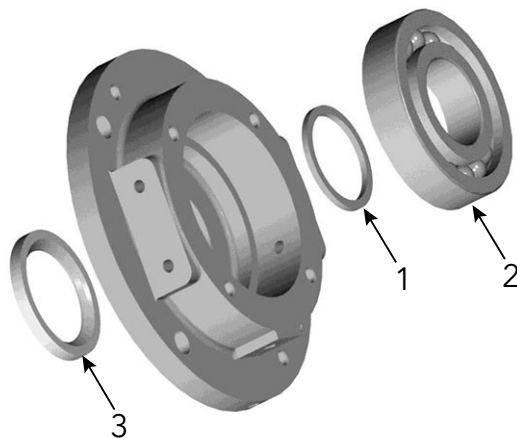

Figure 50: Bearing housing assembly order
**NOTE:** Steps 16-18 should be completed in the order demonstrated within Figure 50.